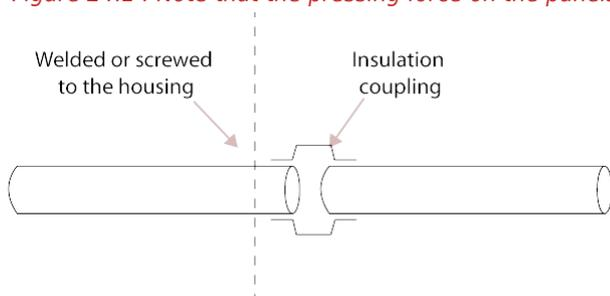

Figure 24.2 : Pipes of conductive material need to be provided with insulating couplings
- **LEVEL III H** Pipes for fluids, air, heating (fig. 24.2) **64 / 69**